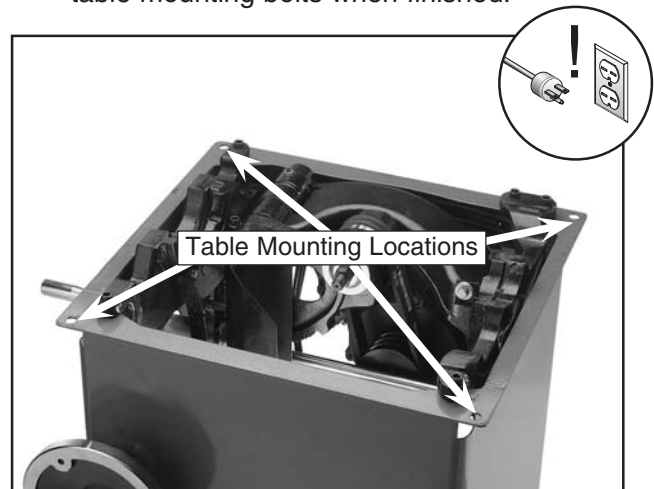

Figure 76. Table mounting bolt holes.
7. To adjust the table, loosen the four bolts in the table mounting locations (see **Figure 76**) and slightly tap the table. Repeat **Steps 2-6** until satisfactory. Do not forget to tighten the table mounting bolts when finished.